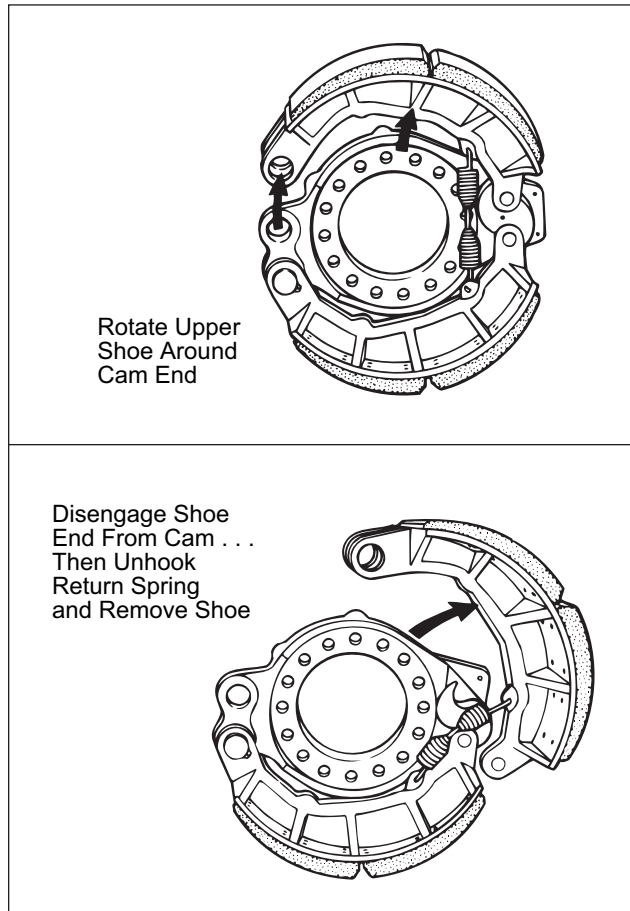

Figure 28. Shoe Removal
6. Rotate upper shoe around cam end, disengage roller end from cam, then unhook return spring from shoe and remove upper shoe. Refer to Figure 28. Discard return spring.